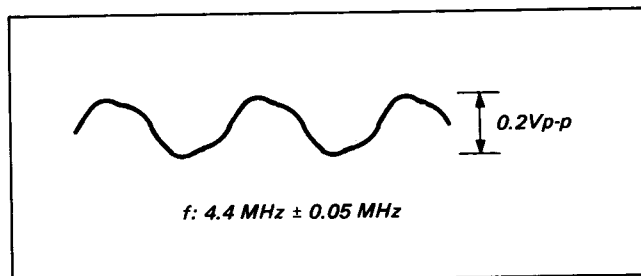

Fig. 5-19.
- (2) Adjust to  $4.4 MHz \pm 0.05 MHz$  with RV201 (See Fig. 5-19)